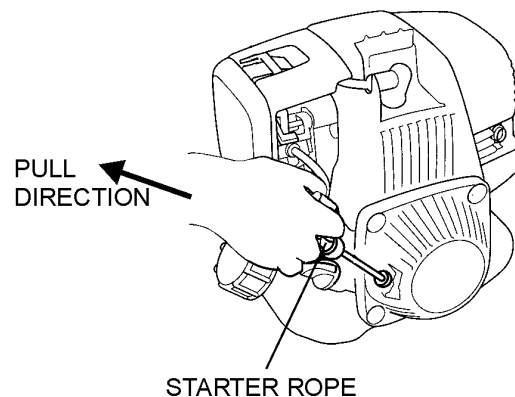

Figure 14. Engine Starter Rope
4. Pull the starter rope (Figure 14) lightly until you feel resistance, then pull briskly. Return the starter rope gently.